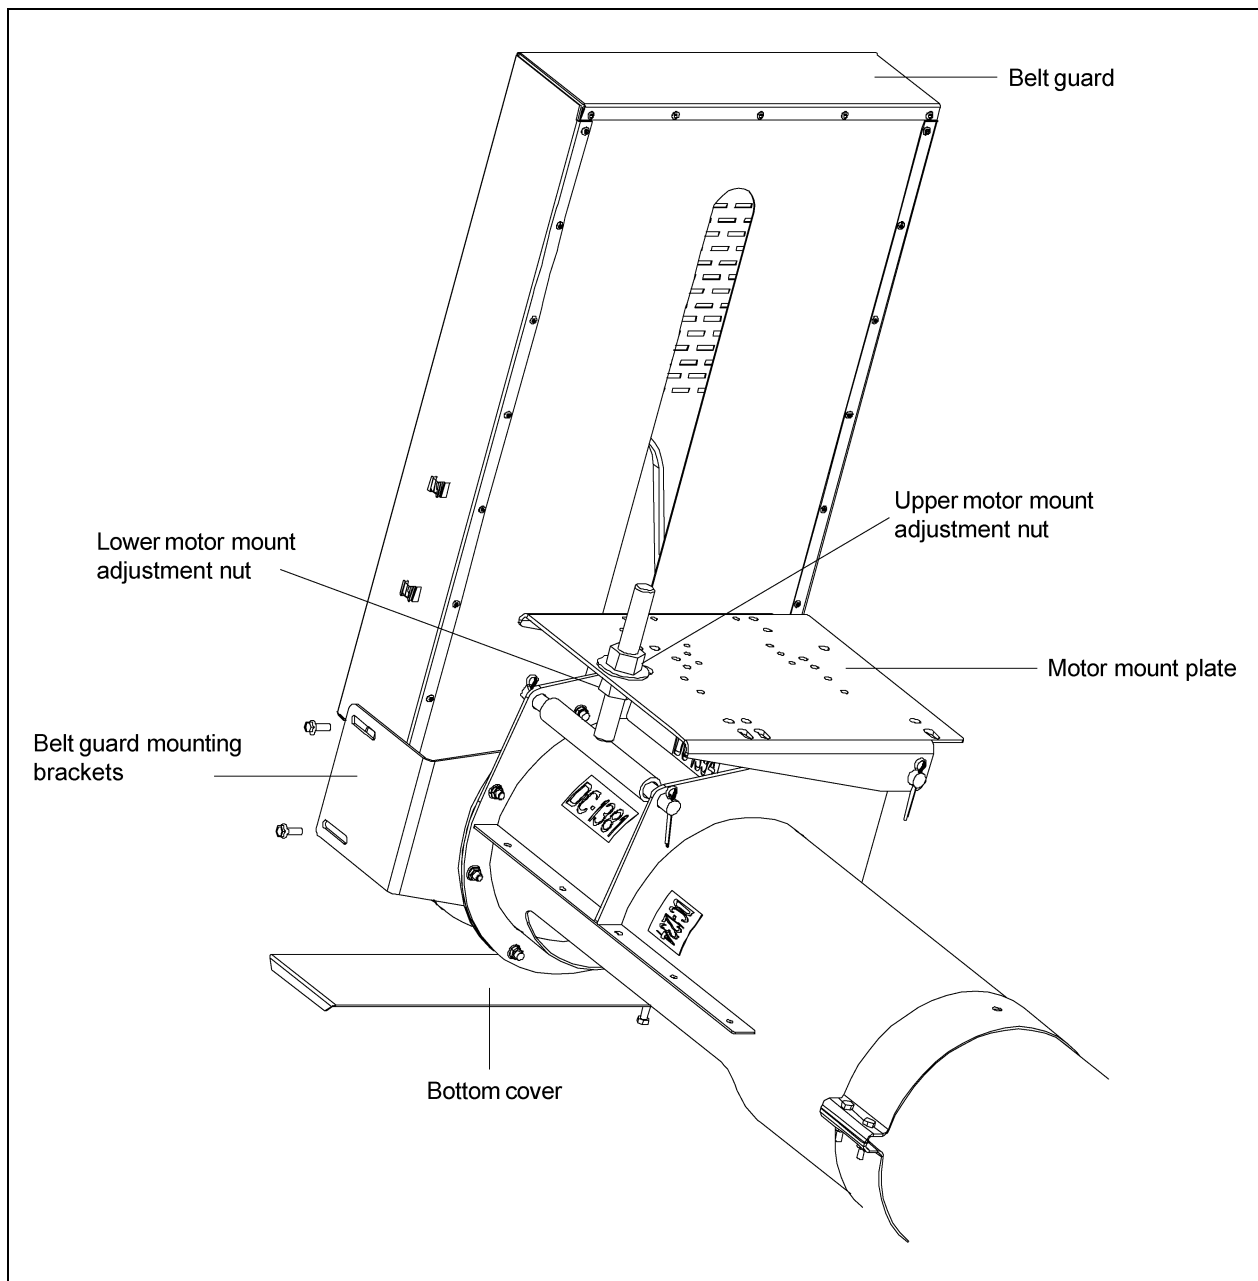

Figure 4K
3. Once the desired tension is reached, tighten the upper motor mount adjustment nut down onto the motor mount plate to lock it into place. (See Figure 4K on Page 19.)
3. Align the motor shaft and the flight drive shaft in the belt guard's slot, making sure that the belt guard DOES NOT contact either pulley or shaft and tighten down the belt guard mounting brackets to the bearing plate. (See Figure 4K.)